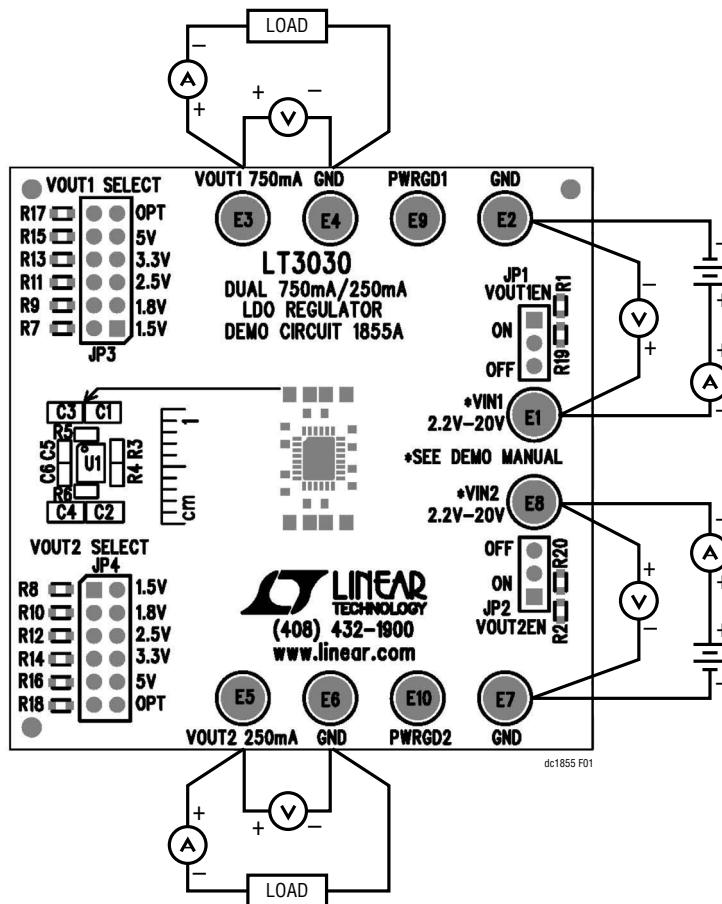

Figure 1: Proper Measurement Equipment Setup for DC1855A
It is easy to set up demonstration circuit DC1855A to evaluate the performance of the LT3030. Refer to Figure 1 for the proper measurement equipment setup and follow the procedure below:
1. With the input supplies and loads off and turned down, make all connections according to Figure 1. Set the output voltages for channels 1 and 2 with the VOUT SELECT jumpers. Make sure the VOUTEN jumpers are in the ON positions.